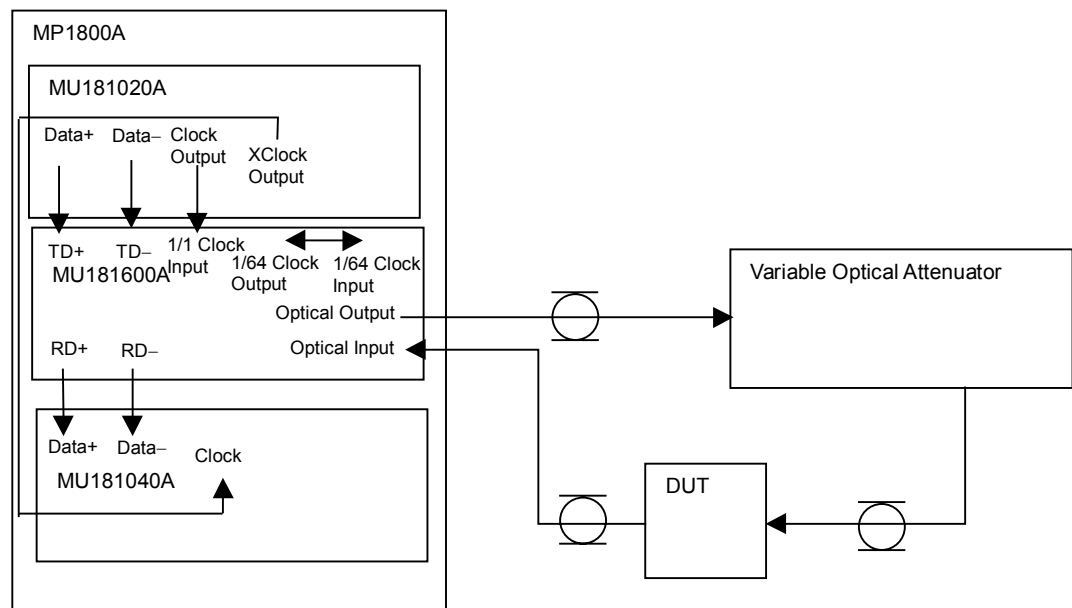

Fig. 5.1.1-1 Connection diagram
1. Connect the Optical Input connector of the DUT (device under test) and the Optical Output connector of the MU181600A via an optical attenuator, and connect the O/E output connector of the DUT and the Data Input connector of the MU181040A (see Fig. 5.1.1-1).